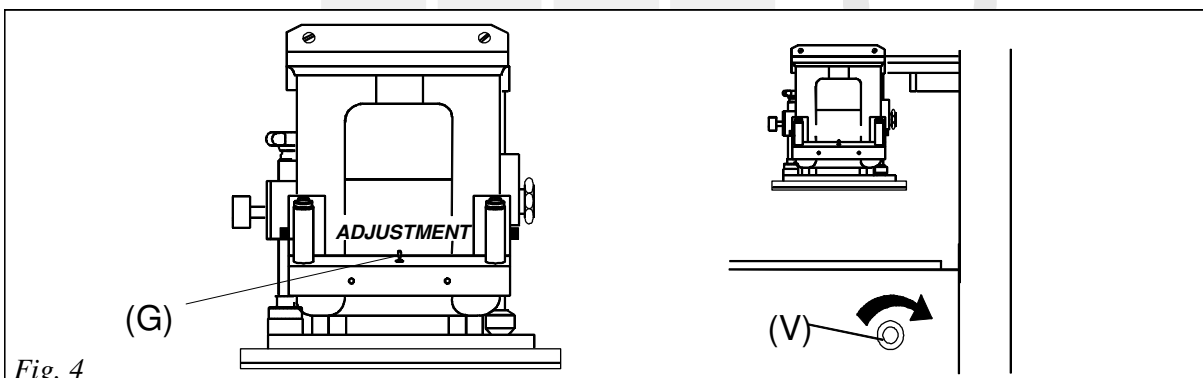

Fig. 4
- b) move the selector (G) to **ADJUSTMENT** position and fully turn the handwheel (V) clockwise (Fig. 4).